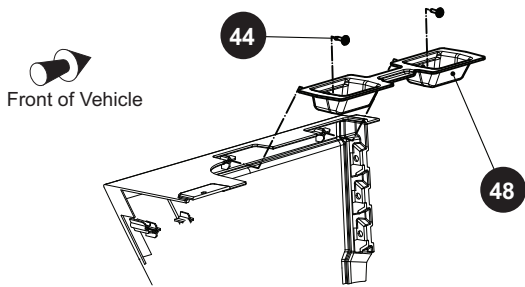

**Fig. 11 Seat Wrap Replacement**
1. Drill out the rivets (49) securing the seat wrap (40, 45) to the floor (41) and frame (Ref. Fig. 11). Retain the hinge plates (47) for reuse during installation.
2. Remove the 6 screws (42) connecting the front of the seat wrap (40) to the sides (45).
3. Pull the front portion (40) of the seat wrap out of the vehicle.
4. Remove the screws (46) connecting the seat wrap to the frame from the inside of the side portions of the seat wrap.
5. Pull the side portions (45) of the seat wrap out of the vehicle.